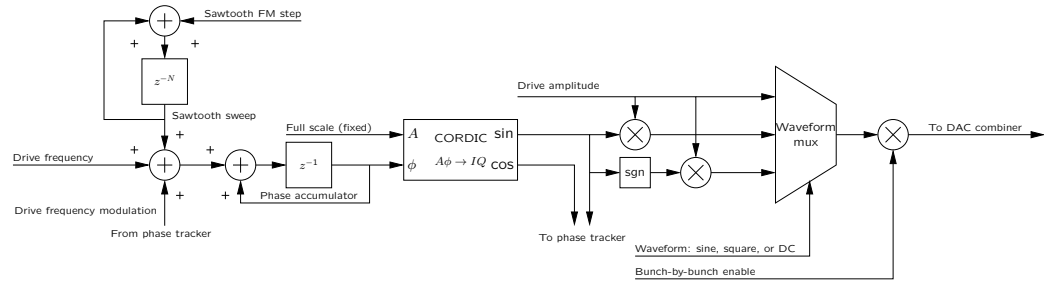

Figure 15: Drive source block diagram
Three independent drive sources are available in iGp12-470F **FPGA**, 0, 1, and 2. Each source is based on an **numerically controlled oscillator (NCO)** with sawtooth **frequency modulation (FM)** capability and bunch-by-bunch enable. Four output waveform types are supported: sinusoidal, square, triangular, and **direct current (DC)**. Block diagram of a drive source is shown in Figure 15.